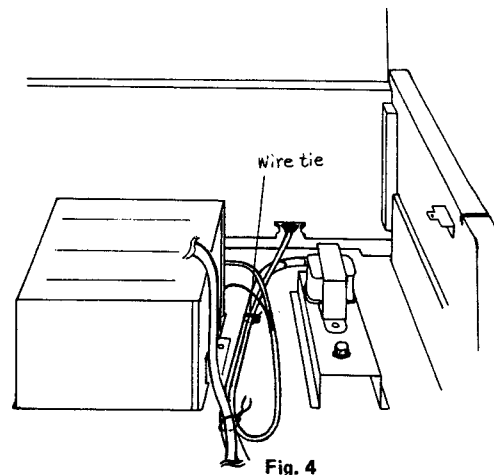

Fig. 4
7. Route the 16 pin shielded cable assembly on the organ shelf as shown in figure 4.
13. Tie the 16 pin shielded cable as shown in figure 4 and 6 by using the supplied wire tie.